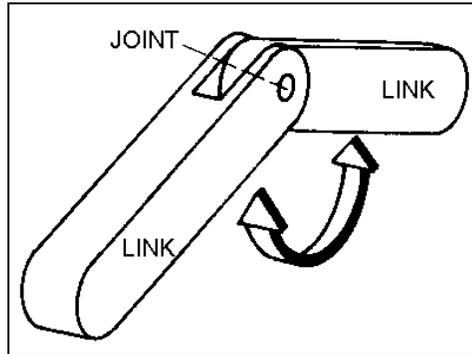

Figure 1-11
- ◆ **Revolute Joints:** A revolute joint permits one link to rotate about a single axis in the other, like a door about its hinge, as shown in Figure 1-11.